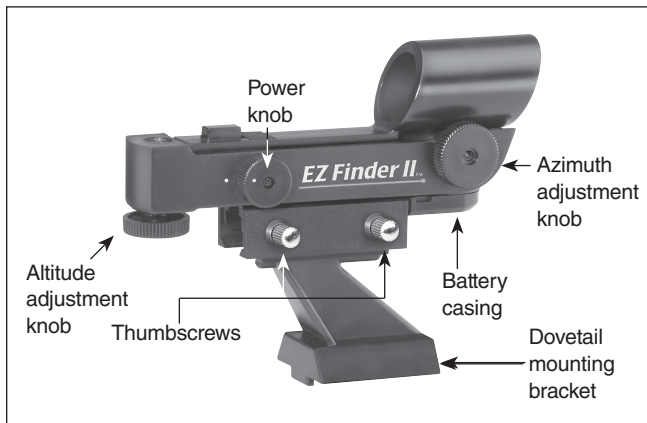

Figure 20. The EZ Finder II reflex sight.
1. Insert a small, flat-blade screwdriver into the notch in the battery casing and gently pry it off (**Figure 20**).
The EZ Finder II works by projecting a tiny red dot (it is not a laser beam) onto a lens mounted in the front of the unit. When you look through the EZ Finder II, the red dot will appear to float in space, helping you to pinpoint your target object. The red dot is produced by a light-emitting diode (LED) near the rear of the sight. Turn the power knob (see **Figure 20**) clockwise until you hear the “click” indicating that power has been turned on. Look through the back of the reflex sight with both eyes open to see the red dot. Position your eye at a comfortable distance from the back of the sight. In daylight you may need to cover the front of the sight with your hand to be able to see the dot, which is purposefully quite dim. The intensity of the dot is adjusted by turning the power knob. For best results when stargazing, use the dimmest possible setting that allows you to see the dot without difficulty. Typically a dimmer setting is used under dark skies and a brighter setting is needed under light-polluted skies or in daylight.
When the EZ Finder II is properly aligned with the telescope, an object that is centered on the EZ Finder II’s red dot should also appear in the center of the field of view of the telescope’s eyepiece. Alignment of the EZ Finder II is easiest during daylight, before observing at night. Aim the telescope at a distant object such as a telephone pole or roof chimney and center it in the telescope’s eyepiece. The object should be at least 1/4 mile away. Now, with the EZ Finder II turned on, look through the EZ Finder II. The object should appear in the field of view. Without moving the main telescope, use the EZ Finder II’s azimuth (left/right) and altitude (up/down) adjustment knobs (see **Figure 20**) to position the red dot on the object in the eyepiece. When the red dot is centered on the distant object, check to make sure that the object is still centered in the telescope’s field of view. If not, re-center it and adjust the EZ Finder II’s alignment again. When the object is centered in the eyepiece and on the EZ Finder’s red dot,